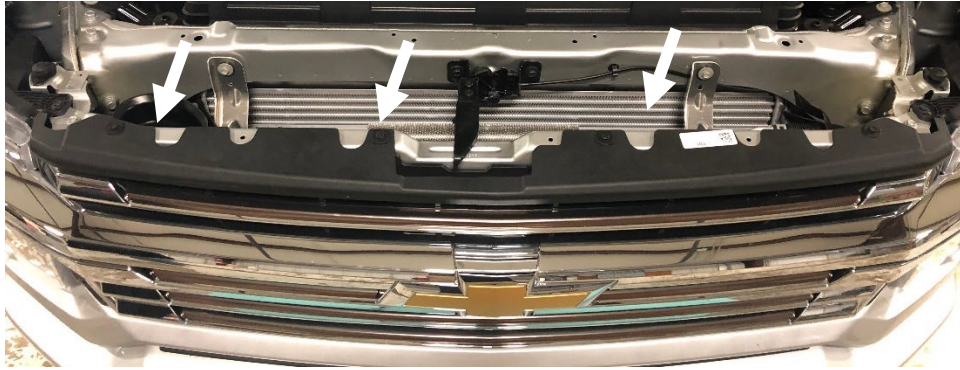

Figure 7
7. Use a 10mm socket wrench to remove the four (4) bolts on the top of the grill. (Figure 7)